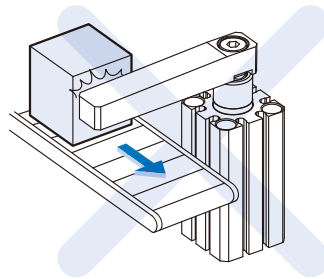

Fig.2
- 2 Do not apply external rotary force on the piston rod. (Fig.2)